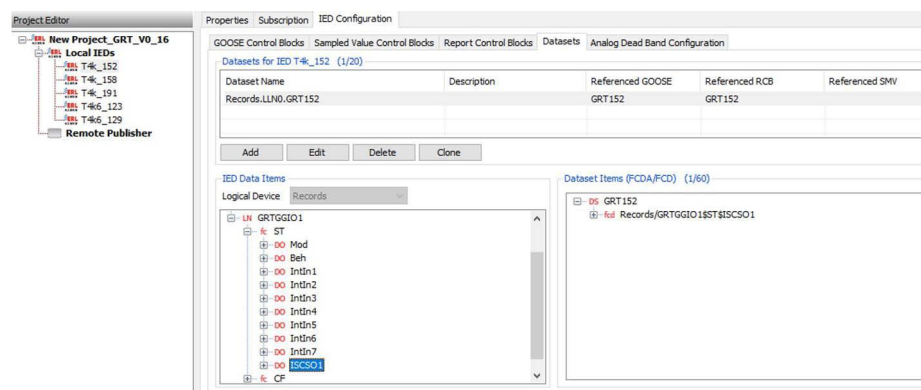

Figure 15.5: Create Dataset to include GRT output
1. For the GRT initiator (publisher), create a dataset with the GRT output attributes (stVal, q, t) from the Records.GRTGGIO1.ISCSO1 data object (Figure 15.5).